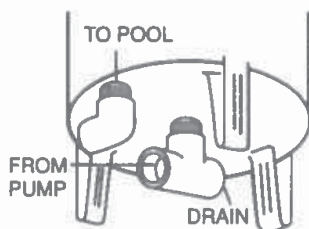

FIG 1:
#### SUGGESTED INSTALLATION (Fig. 1)
1. Install 1-1/2" "T" on the center nipple as shown in figure 1.